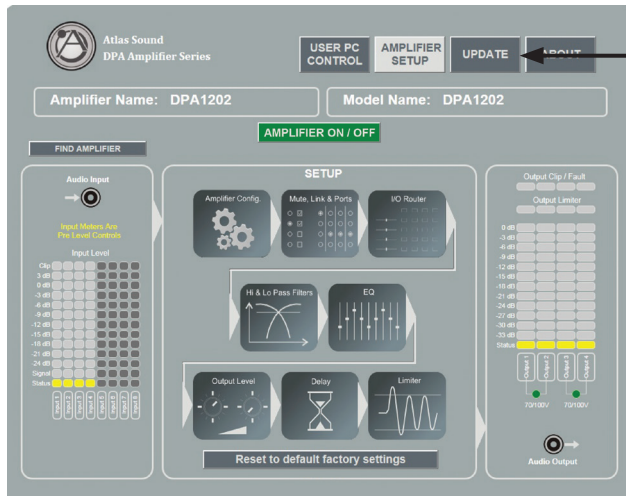

Figure 7
2. Update Page - As features and updates are created it may be required to update the firmware on the amp. This page provides directions on how to perform a firmware update as shown in Figure 7.